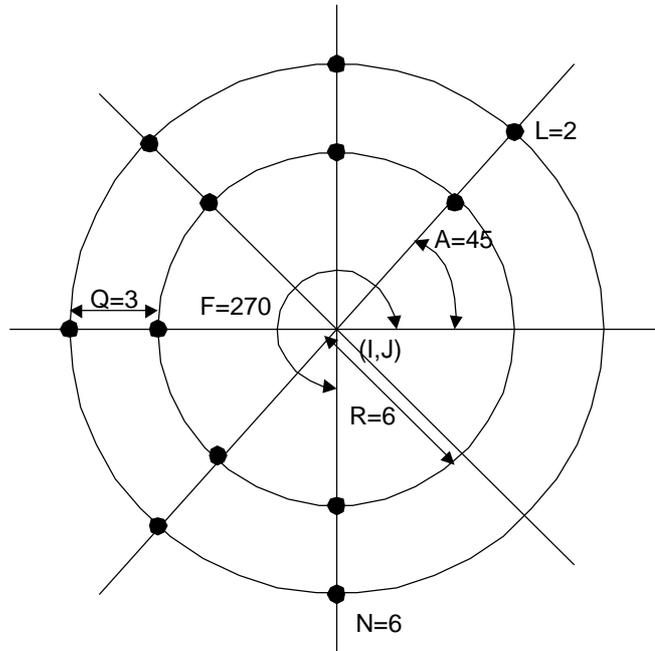
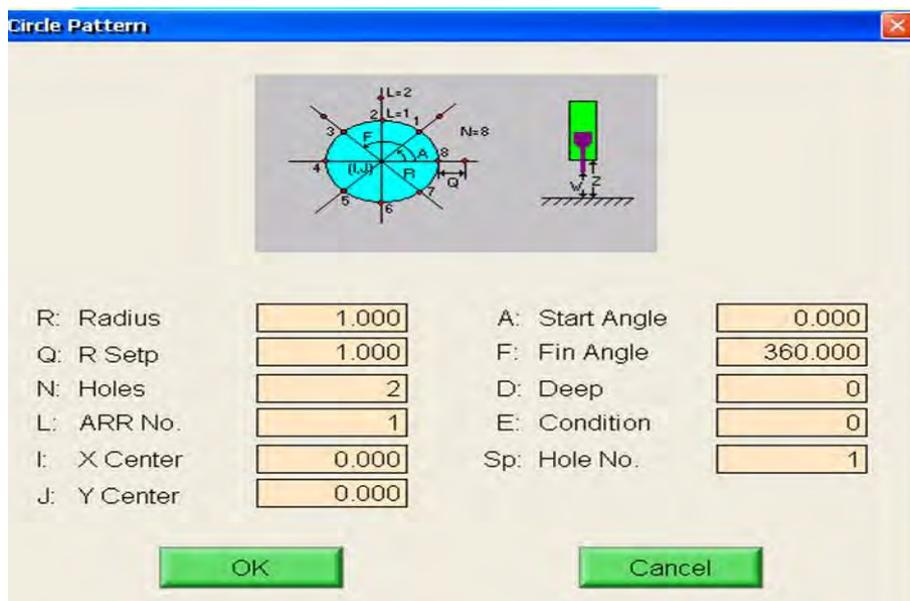

Figure 4-4-8 Circle Pattern Specification Illustration
Figure 4-4-9 Circle Pattern Screen
A user can edit a circle pattern composed of circle holes in simple dialog edit mode. The machined figure is as shown in Figure 4-4-8. Each solid circle point stands for a machined fine hole, and the screen of dialog edit window is as shown in Figure 4-4-9. The following is the description of what each field in the dialog edit window stands for.
- R:** Radius , Input range bigger than 0. Set the radius of the inmost circle in the circle pattern. In Figure 4-4-8, the radius of the inmost circle in the array is 6mm so R is 6.
- Q:** R Step, input range bigger than 0. Set the distance between each circle in the circle pattern. In Figure 4-4-8, the distance between the second circle and the inmost circle is 3mm so Q is 3.
- A:** St Ang. The input range is from 0 to 720. Set the angle (angle 0 stands for X direction of work coord) of the first hole in each circle in the circle pattern. In Figure 4-4-8, due to the angle of the first hole is 45°, A is 45.
- F:** Fin Ang. The input range is larger than A and smaller than $A+360^\circ$. Set the angle of the last hole of each circle in the circle pattern. In Figure 4-4-8, due to the angle of the last hole is 270°, F is 270.
- N:** Holes. Input range bigger than 0 integer. Set the total hole no. in each circle (including the first hole and the last hole). In Figure 4-4-8, due to the fact that each circle has 6 holes, N is 6.
- L:** ARR No. Set the total circle no. in the circle pattern. In Figure 4-4-8, due to the fact that there are total 2 circles, L is 2.
- I:** Abs(X0), input range bigger than 0. Set X coord of the center in the circle pattern. In Figure 4-4-8, due to the fact that X coord of the center in the circle pattern is 0, I is 0.
- J:** Abs(Y0), input range bigger than 0. Set Y coord of center in the circle pattern. In Figure 4-4-8, due to the fact that Y coord of the center in the circle pattern is 0, J is 0.